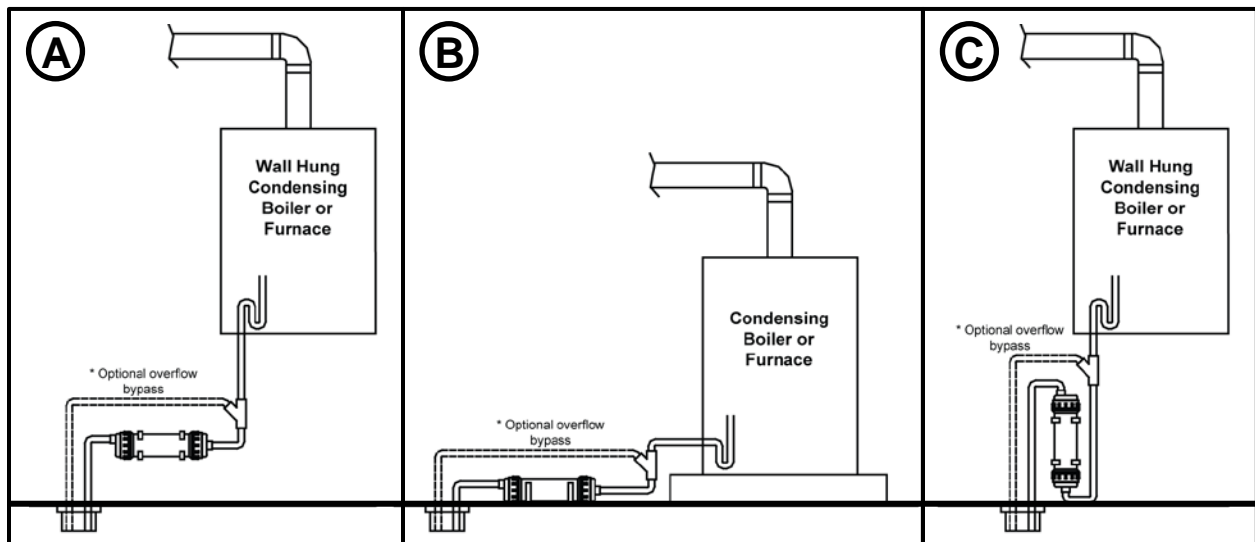

Figure 3: Condensate Drainage examples Without Condensate Pump
- 1) Neutralization kit is installed such that the inlet and discharge are at a lower elevation than the condensate drain from the appliance. See examples A, B, and C in Figure 3.
The optional safety overflow lines indicated in Figures 3 and 4 function in the event that the drainage through the condensate neutralizer becomes clogged.